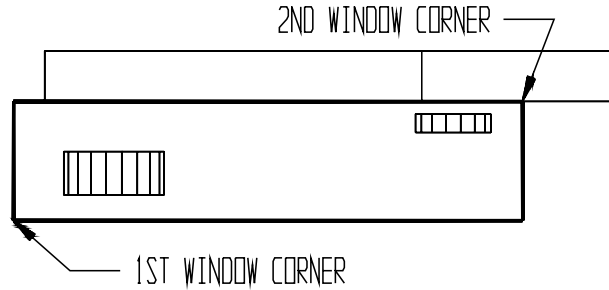

FIG. 8
Step 6. In the Top View, window around the both wheels. To window, move the cursor to just below and outside the rear wheel and click to start the 1ST WINDOW CORNER, **Fig 8**. Stretch the window to surround both wheels. Click to set 2ND WINDOW CORNER.